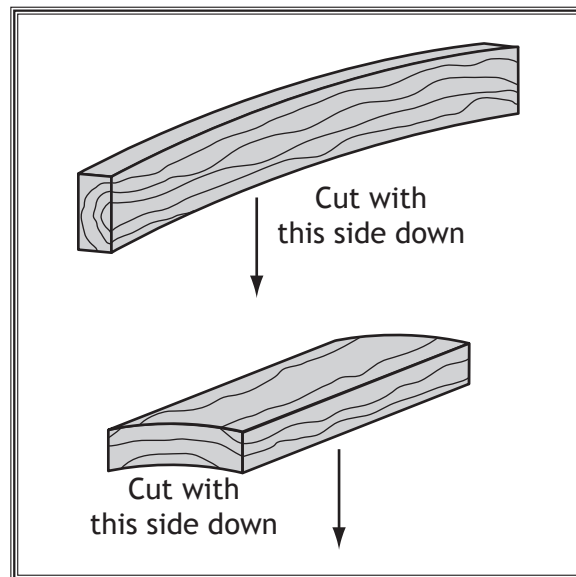

Figure 39. Cutting workpieces with minor warping.
- **Minor Warping:** Workpieces with slight cupping can be safely supported if the cupped side faces the table or fence, as shown in **Figure 39**. On the contrary, a workpiece supported on the bowed side will rock during a cut, leading to loss of control.